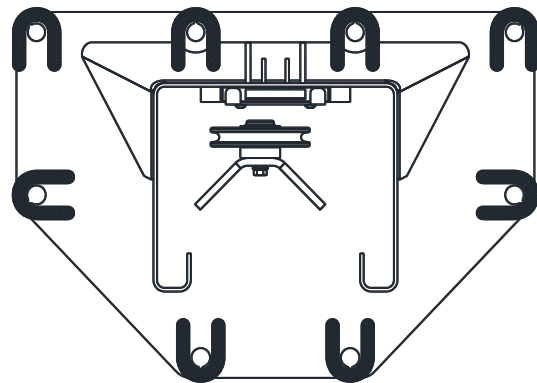

Fig. 5 – Column Shimming
- 13) Shim both columns to plumb using the shims provided as shown in **Fig. 5**. **DO NOT** shim more than 1/2" at any given point. Use a level no less than 24" in length to plumb columns.
- 17) Check idler column shimming. Use additional shims (see Fig. 5) to remove any gaps that may have been created while installing overhead beam. Torque idler column anchor bolts to 150 ft-lbs. and re-check column for plumb.